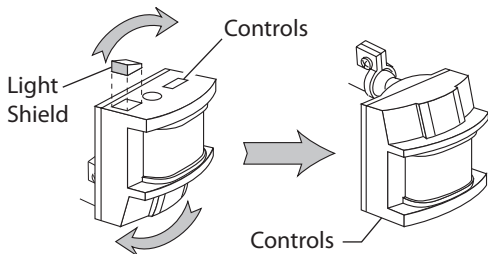

Figure 9
2. Then rotate the sensor head clockwise 180° so the controls face down (see Figure 9).